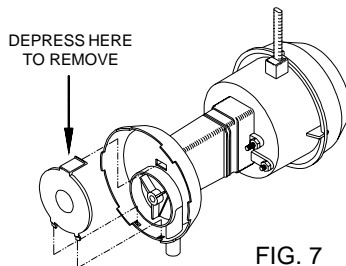

FIG. 7
- **Clean pump.** Cleaning the pump is necessary once a year at start-up. For your safety, turn unit off and unplug from power receptacle. Remove the pump from the mount slot. Remove the base of the pump as shown in Fig. 7. Clean the pump and turn the impeller to ensure free operation. Remove the pump spout and check for any blockage. After cleaning, reinstall the base onto the pump. Reattach the pump to the mount in the cooler using the plastic retainer to ensure that the pump will not overturn. Do not forget to replace the spout and water delivery tube onto the pump outlet. The pump has automatic reset thermal protection.